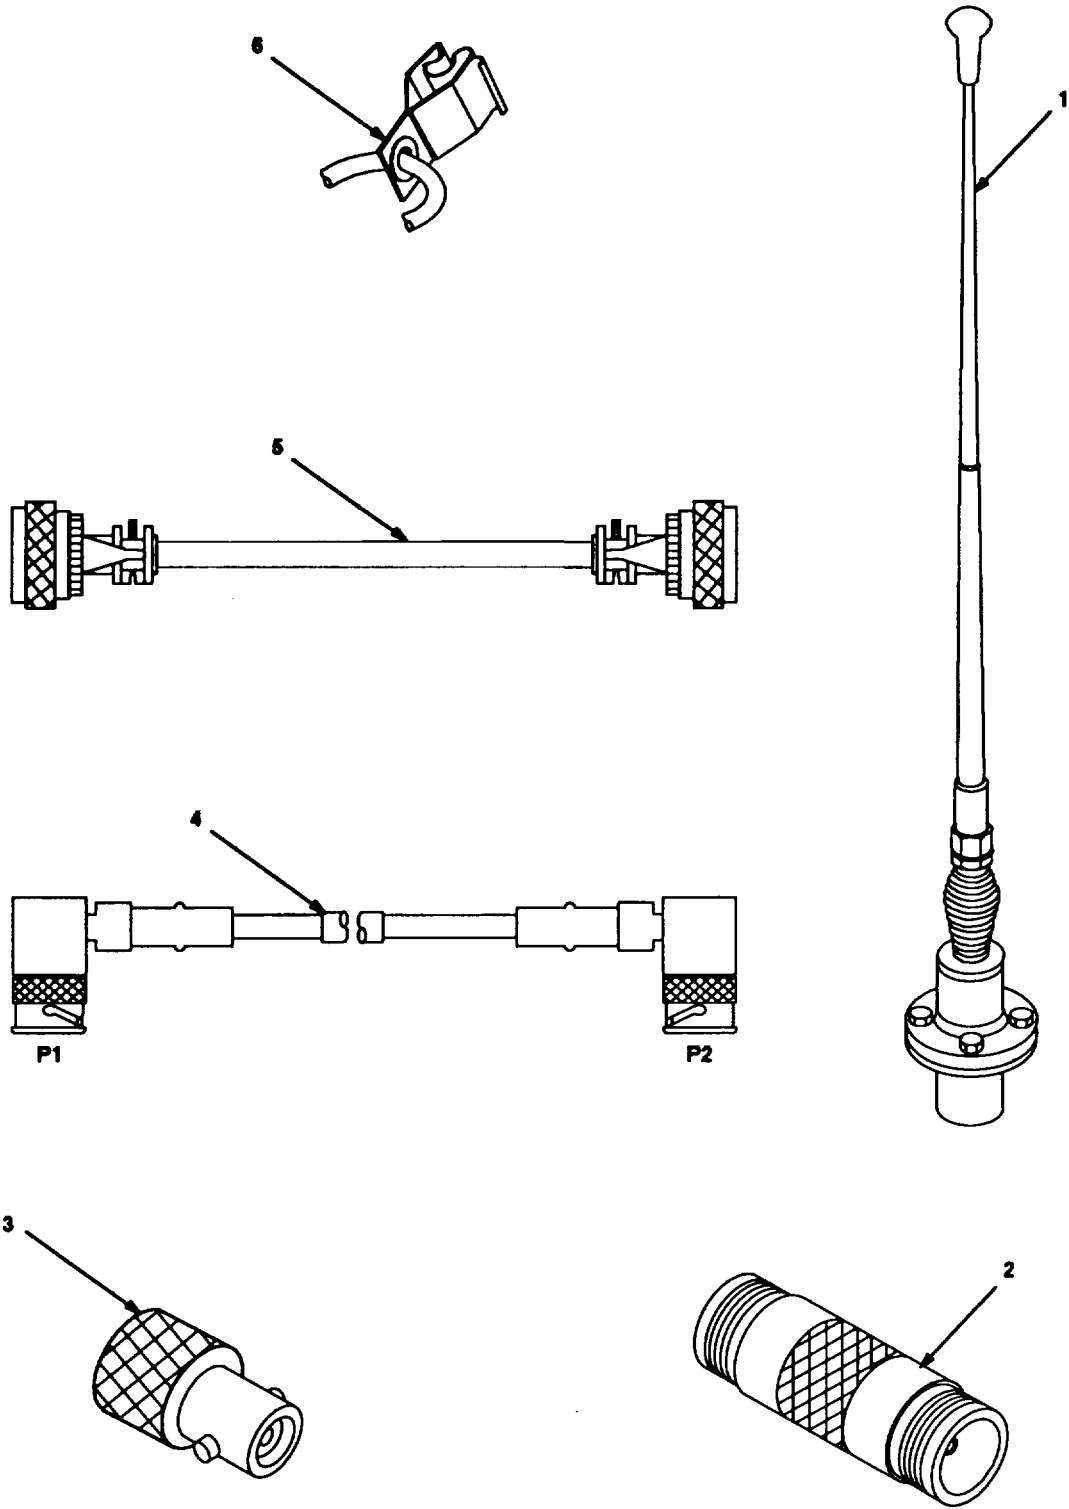

Figure 4-1. MK Illustrated Parts List
4.3.1 Items Supplied In MK and/or Required for Installation. Use Table 4-1 and figure 4-1 to identify and inventory MK parts supplied to install Receiver-Transmitters RT-1476A/ARC-201A(V).